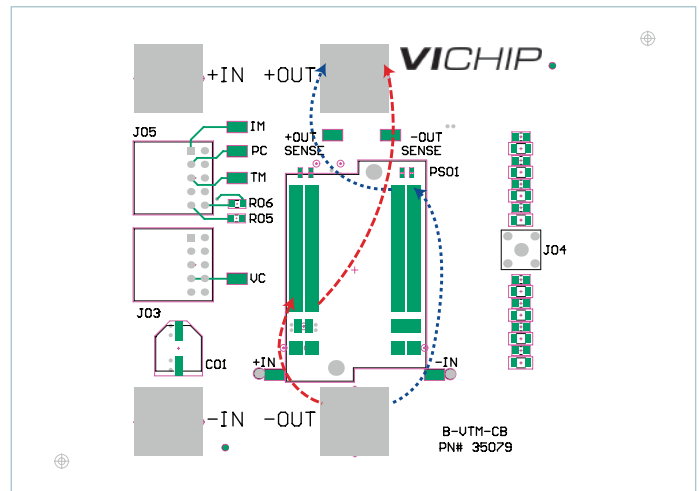

Figure 22 — Equal current path
- The total current path length from any point on the V+OUT J-leads to the corresponding point on the V-OUT J-leads should be equal (see Figure 22).